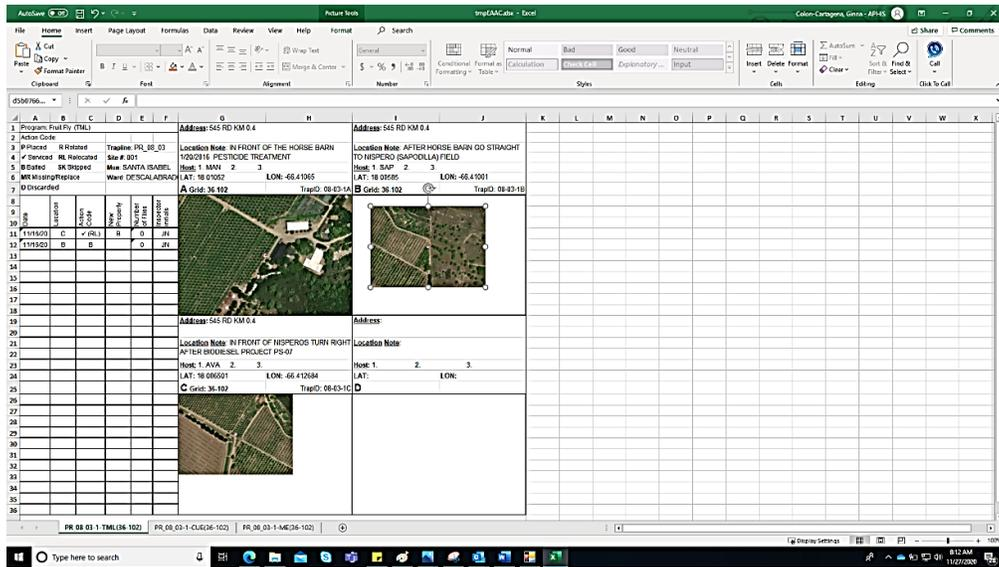

Figure 15. Editable FFD-2 Records
Step 7: An .xlsx spreadsheet opens and images can be adjusted. (Figure 15)